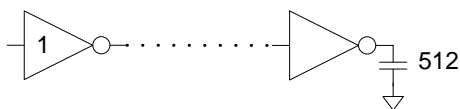

Fig. 17
17. Design a tapered buffer to drive a 512-unit loading (relative to C_{in} of unit inverter) as shown in Fig. 17. (5%)